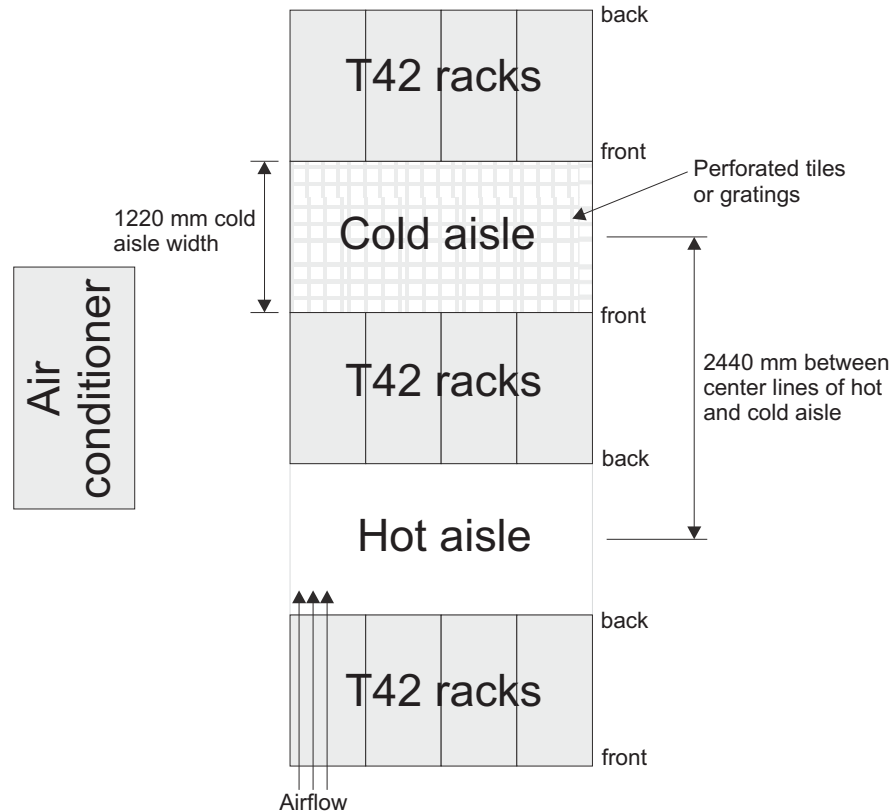

Figure 9. Example of cold aisle/hot aisle rack configuration
- Air enters at the front of the rack and leaves at the back. To prevent the air that is leaving the rack from entering the intake of another piece of equipment, you must position the racks in alternate rows, back-to-back and front-to-front. This arrangement is known as *cold aisle and hot aisle* and is shown in Figure 9 on page 18.